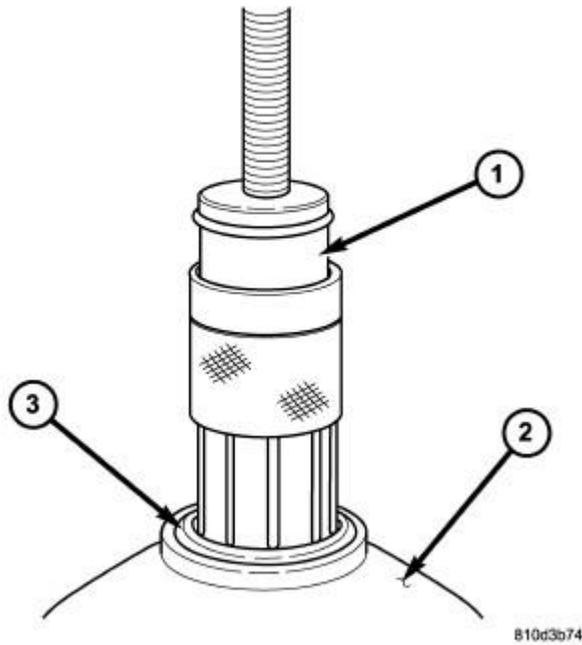

Fig. 64: Positioning Bearing Remover 9082A Over Inner Race Of Output Shaft Bearing
14. Position Bearing Remover (special tool #9082A, Remover, Bearing) (1) over the inner race of the output shaft bearing (3). Refer to **Fig. 64**.